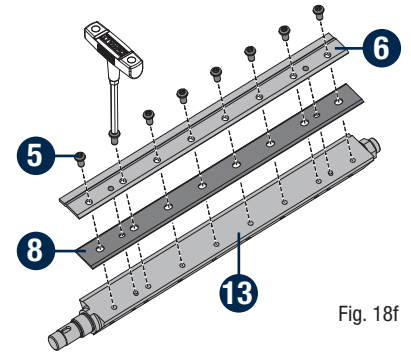

Fig. 18f
- To reset the knife clamp (6), align the beveled edge of the knife clamp with the cutting edge of the knife (8) (Fig. 18f). If these are not aligned correctly, the clamp will not secure the knife properly.
- Place eight bolts (5) through the holes in the knife clamp (6) and knife (8) into the cutterhead (13).